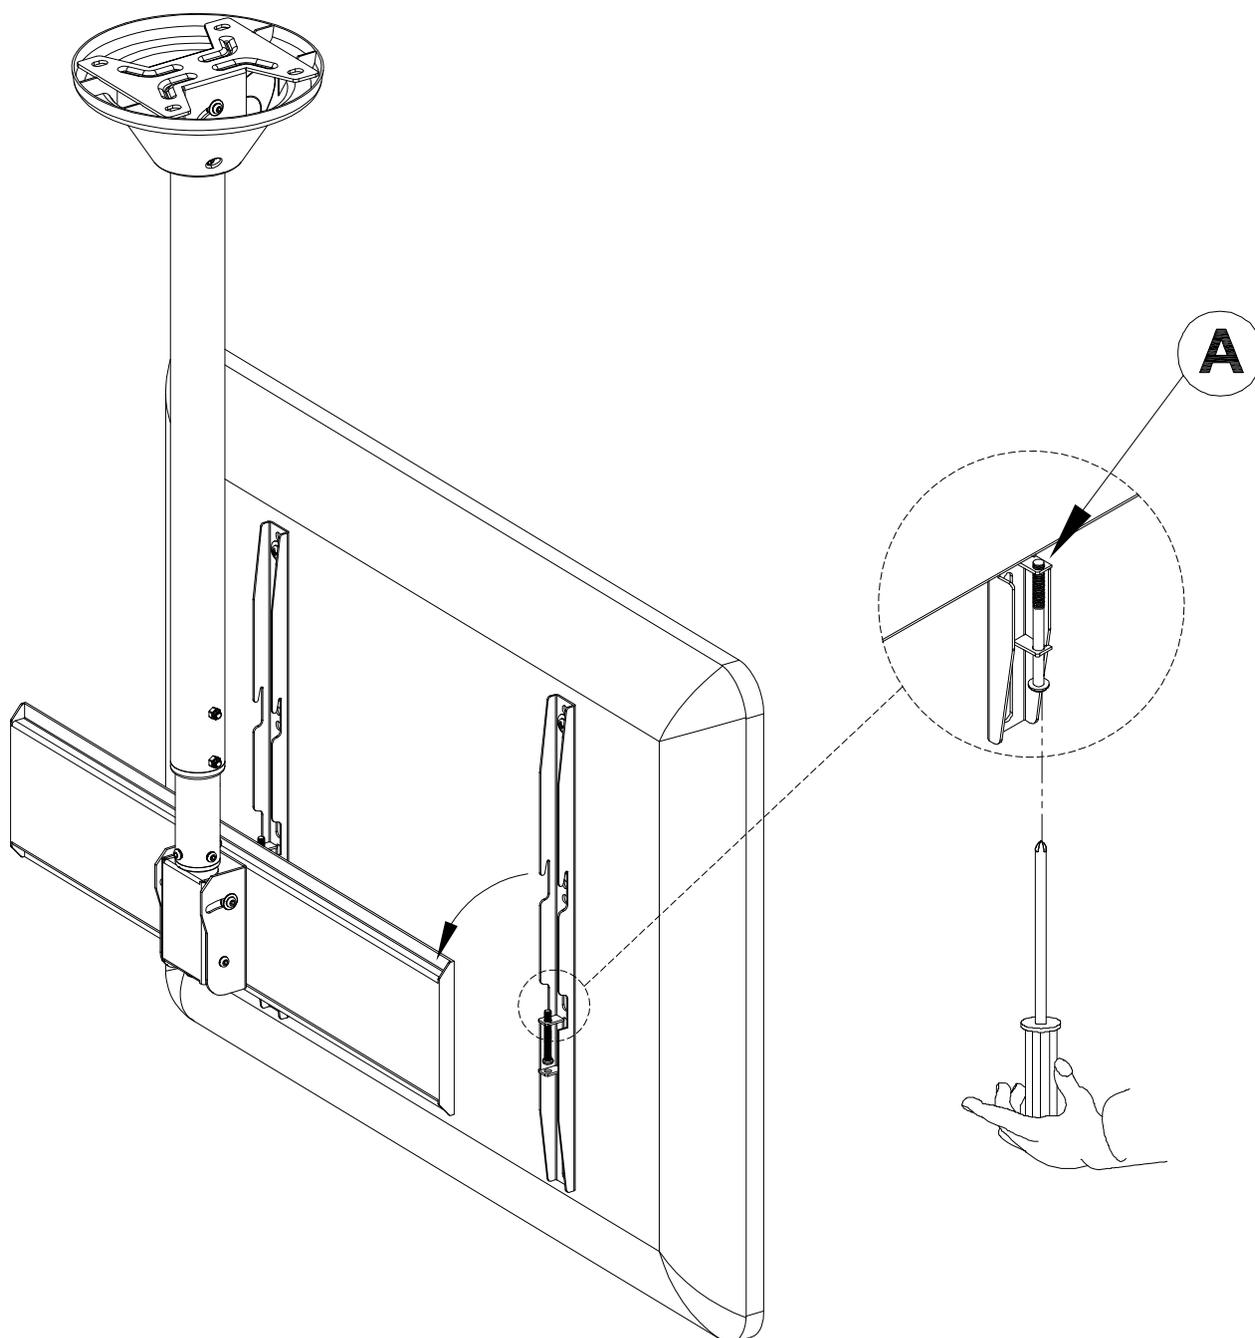

Figure 7 - Attach tV Assembly to Front Plate
Hang the pre-assembled TV unit on the front plate, as shown in Figure 7. Tighten the screws (A) to secure the TV unit to the front plate. This wall mount is designed to conceal cables inside the pole. Run cables through the ceiling and out through the hole at the bottom of the pole for a clean look.